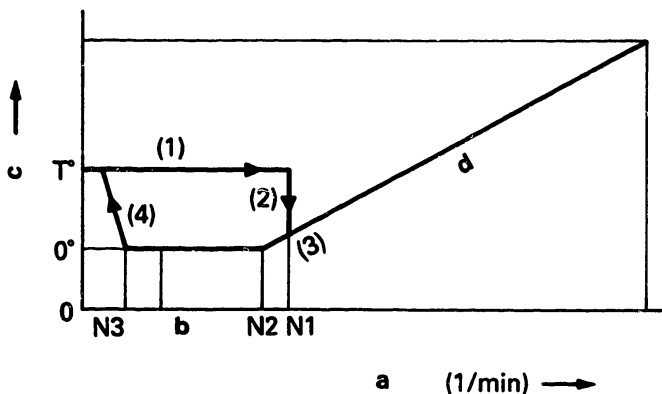
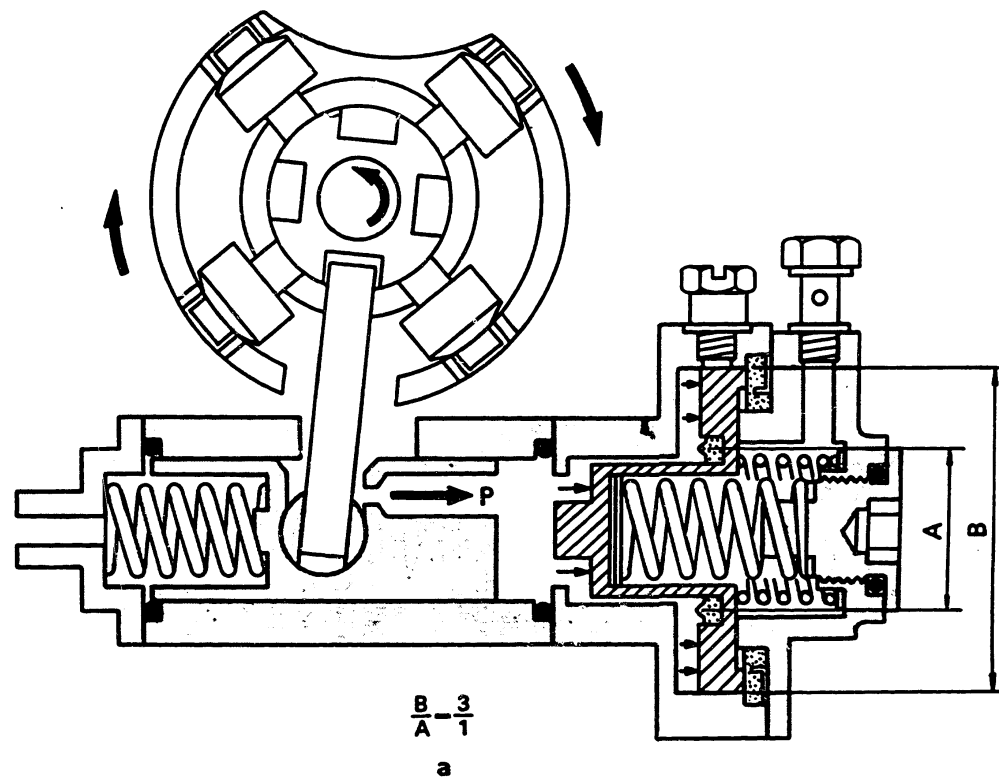

Fig. 28 Timing characteristic
Fig. 30 C.D.S. disengagement
Fig. 28 shows the range of the C.S.D. operation against the timing characteristic curve.
**Range (1): C.S.D. engagement**
When pump speed is less than N1 rpm (See Fig. 28), the fuel pressure (P) applied to the surface area "A" in Fig. 29 is smaller than the C.S.D. springs' forces.
When pump speed increases to N1 rpm, the fuel pressure applied to the C.S.D. piston surface area "A" increases and balances the force of the C.S.D. springs. Therefore, when pump speed exceeds N1 rpm, the C.S.D. piston is able to compress the C.S.D. spring because the fuel pressure acts on surface area "B", which is approximately three times larger than surface area "A" (as shown in Fig. 30). By this operation the C.S.D. is disengaged. Once disengaged, the C.S.D. piston remains stationary while pump speed is above N3 rpm. This is because of the ratio of surface area "A" to surface area "B".
When pump speed decreases through range (3) in Fig. 28 and approaches idling, the pressure applied to area "B" of the C.S.D. piston also decreases. Consequently the C.S.D. spring force will overcome the C.S.D. piston pressure, moving the C.S.D. piston to the left (See Fig. 30). The C.S.D. piston will then move the timer piston, and the injection timing will advance along range (4) in Fig. 28 until it reaches an angle of T°.